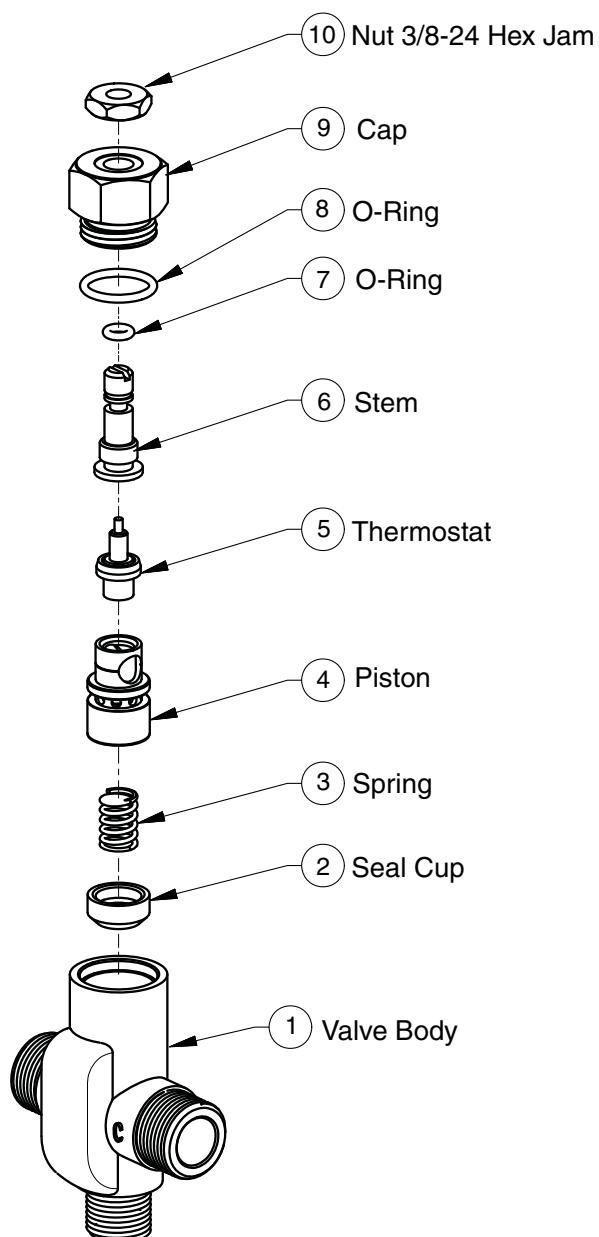

Figure 14
1. Remove the valve's cap and thermostat (see Figure 14 on Page 24).